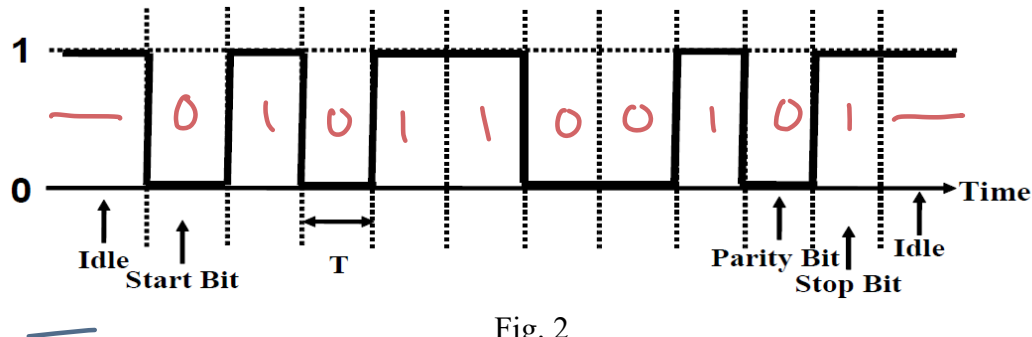

Fig. 2
2) Fig. 2 shows the logical waveform of an asynchronous data frame.
Answer the following question with reference to Fig. 2:
i. The value of  $T$  in Fig 2.
(f) Assume the baud rate of the transmitter is 4800, but the baud rate of the receiver is configured as 9600. Based on Fig. 2, determine, if any, the ASCII character(s) that will be received.